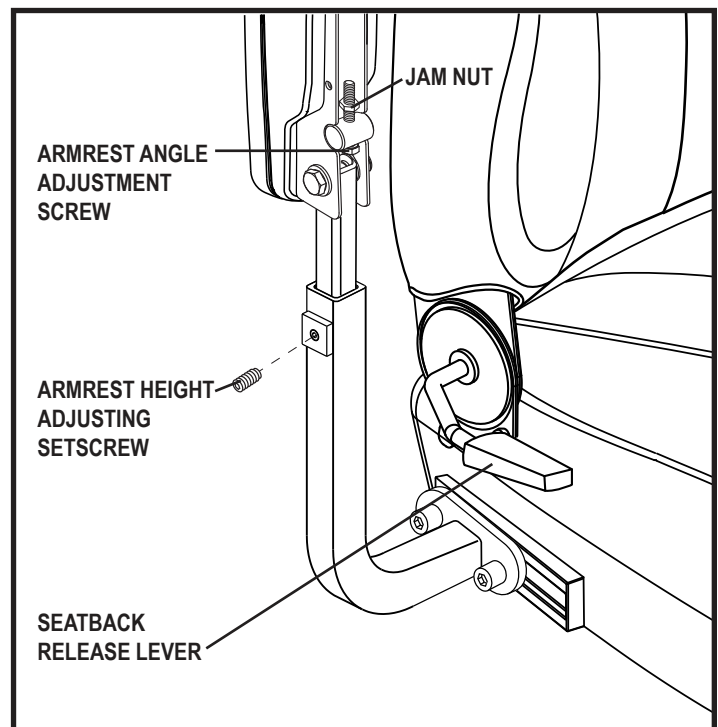

Figure 11. Armrest and Seatback Adjustments
If your power chair is equipped with a manual recline seatback, you can adjust the seatback angle using the seatback release lever. See figure 11.
1. Lift the armrest straight up so that it is perpendicular to the floor. See figure 11.
1. Loosen the setscrews on the armrest. See figure 11.